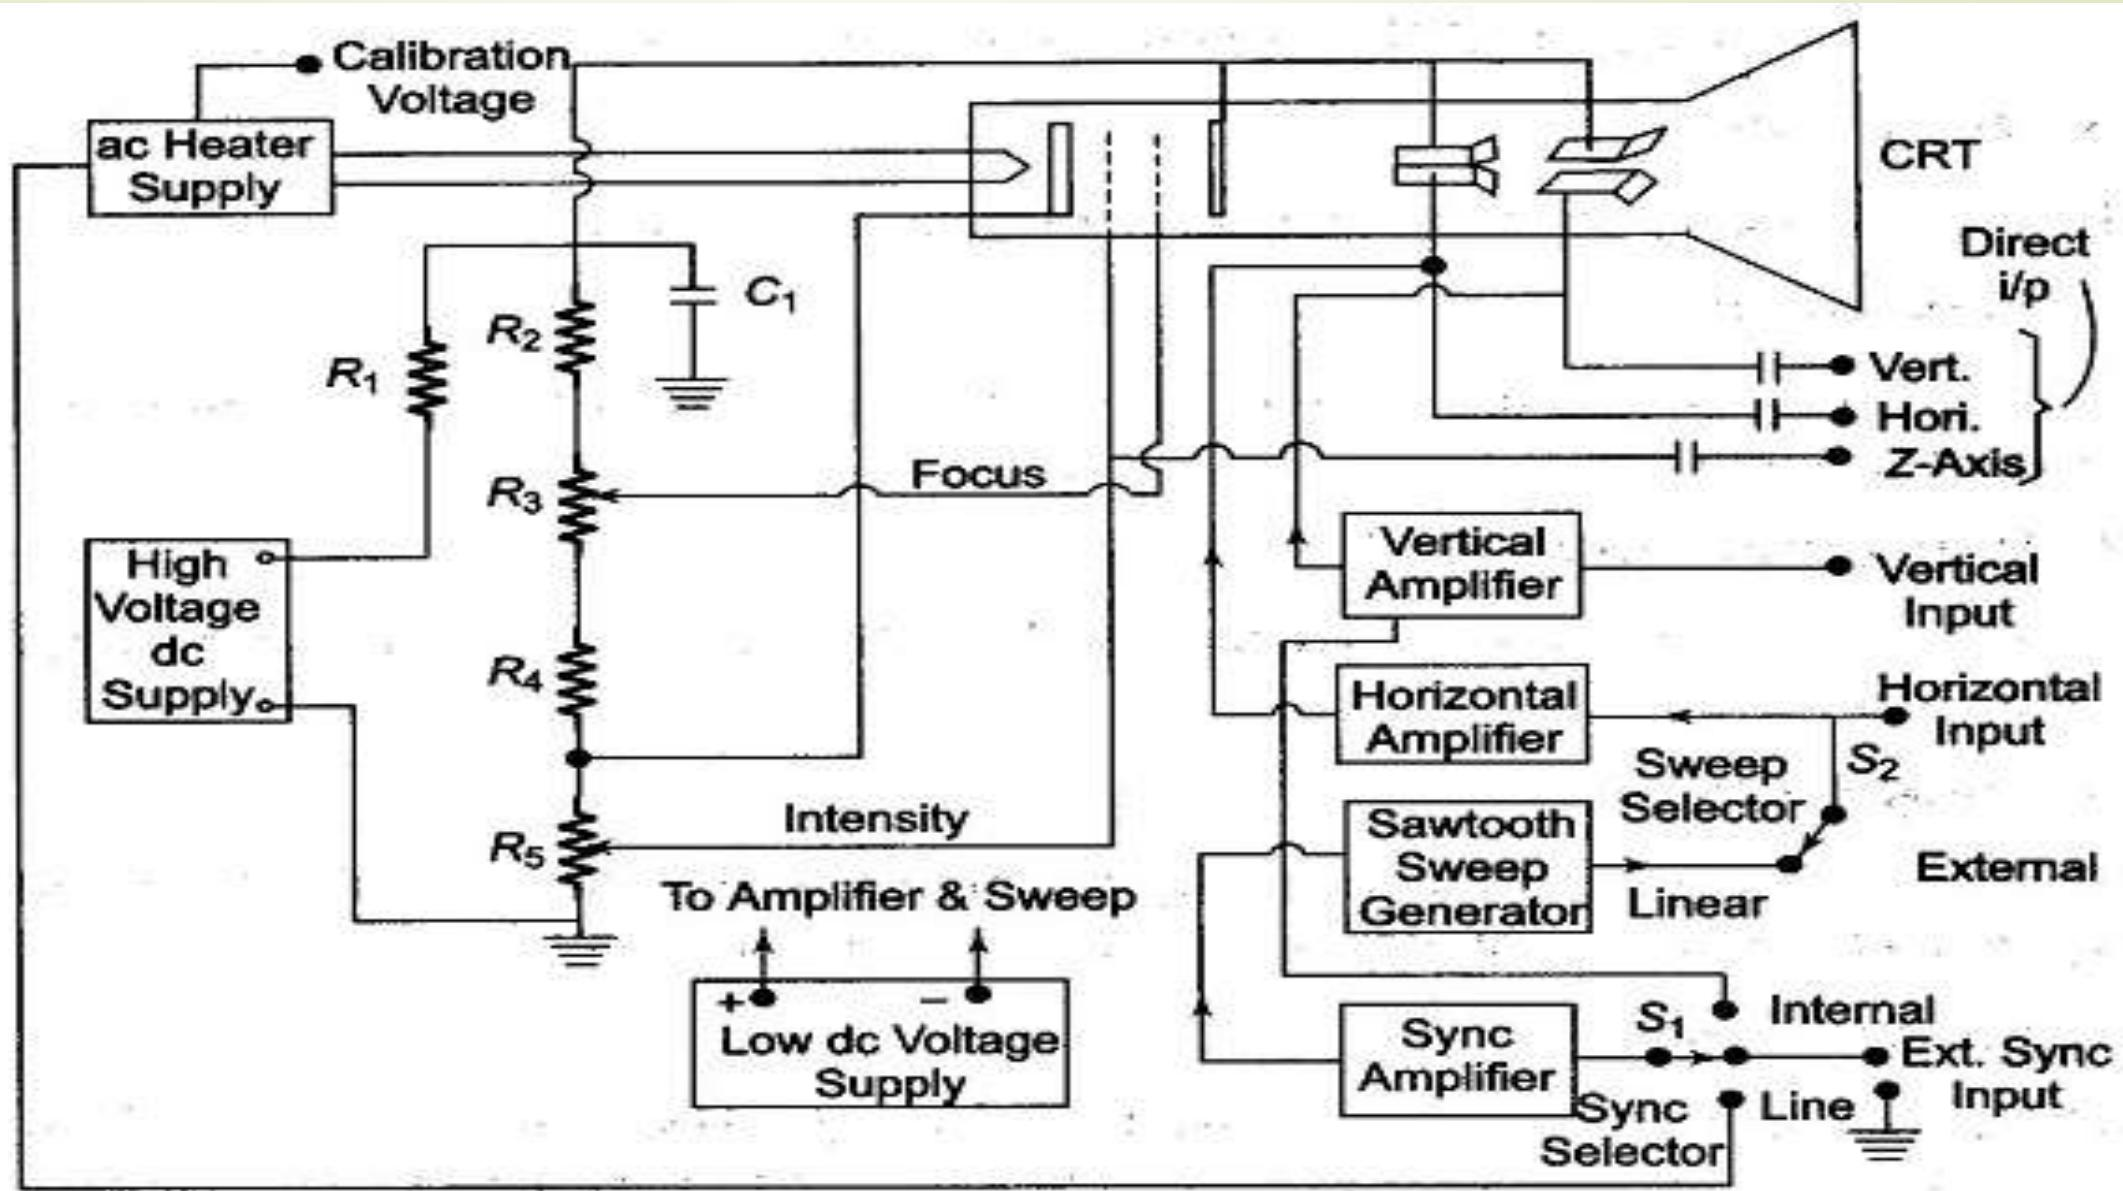

Fig. 7.5 Simple CRO
- The Basic block diagram of a simple CRO is shown in Fig.7.5. The ac filament supplies power to the CRT heaters. This also provides as accurate ac calibrating voltage.